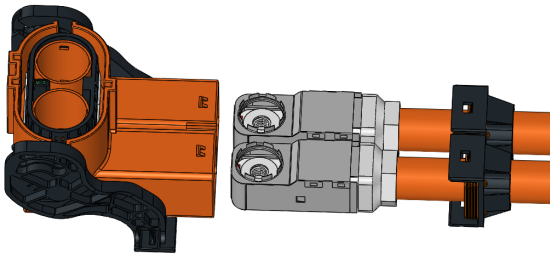

Figure 9.1.1
Step 9: Insert the cable assembly into the plug shell assembly (Figure 9.1.1 & 9.1.2)